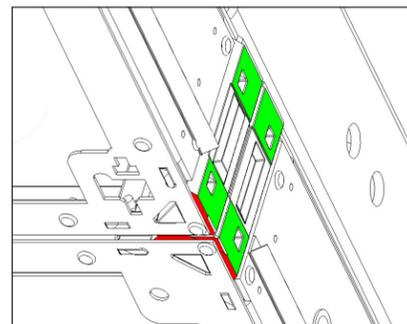
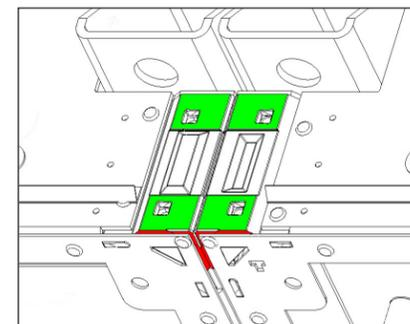

Figure 4: Inspect Corner Blocks (Side View)
Figure 5: Inspect Corner Blocks (Top View)
6. Inspect the faces of the corner blocks highlighted in **Figure 4** and **Figure 5** visually on the installed sections to ensure they are flush and aligned.
- Inspect the corner blocks on the installed section visually to ensure the faces shown in **Figure 4** and **Figure 5** are flush and aligned.